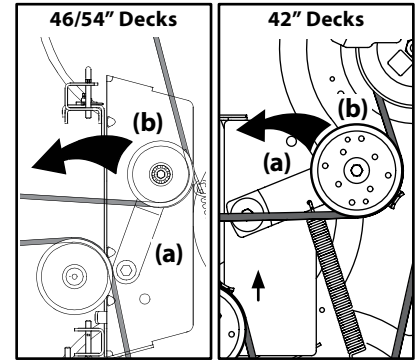
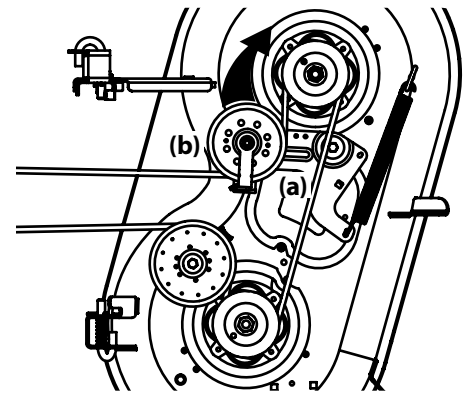

Figure 4-14
Figure 4-15
- Working from the middle of the tractor, pivot the idler bracket (a) and movable idler pulley (b) rearward on 42/46/54" decks and forward on 34" decks just far enough to lift the belt up and over the spindle pulley. See Figure 4-14 for 42/46/54" decks and Figure 4-15 for 34" decks.